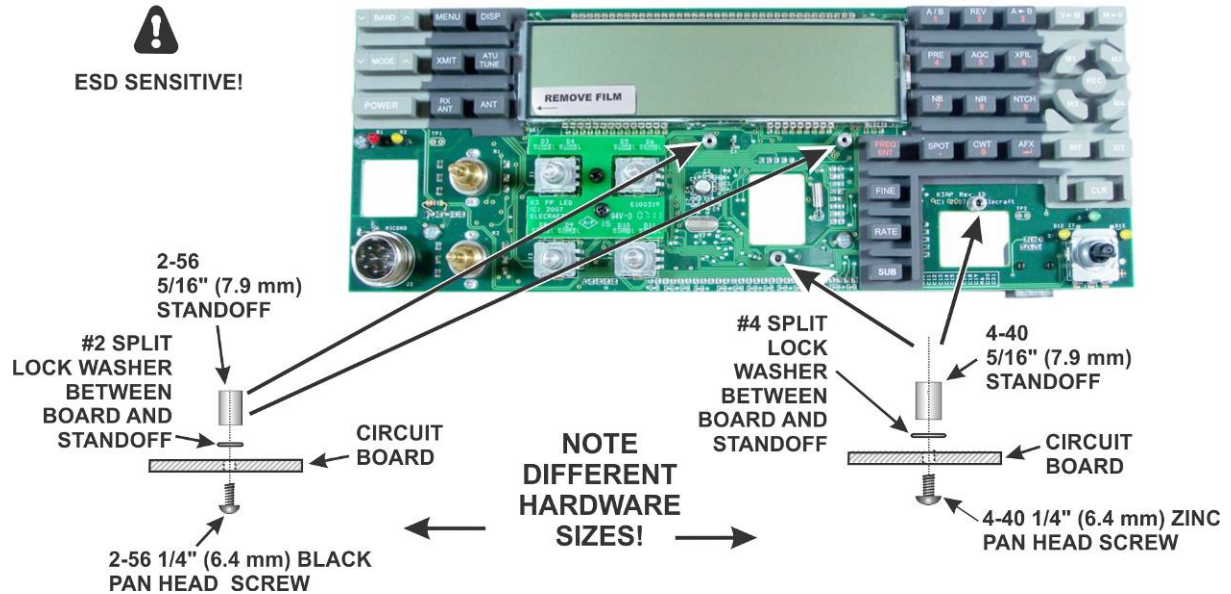

Figure 7. Preparing the Front Panel Board for Mounting, Part 2.
- On the front side of the board, mount four standoffs as shown in Figure 7.
- Two 4-40 5/16" (7.9 mm) standoffs are mounted on the front as shown in Figure 7.
- Two 2-56 5/16" (7.9 mm) standoffs are mounted on the front as shown in Figure 7.